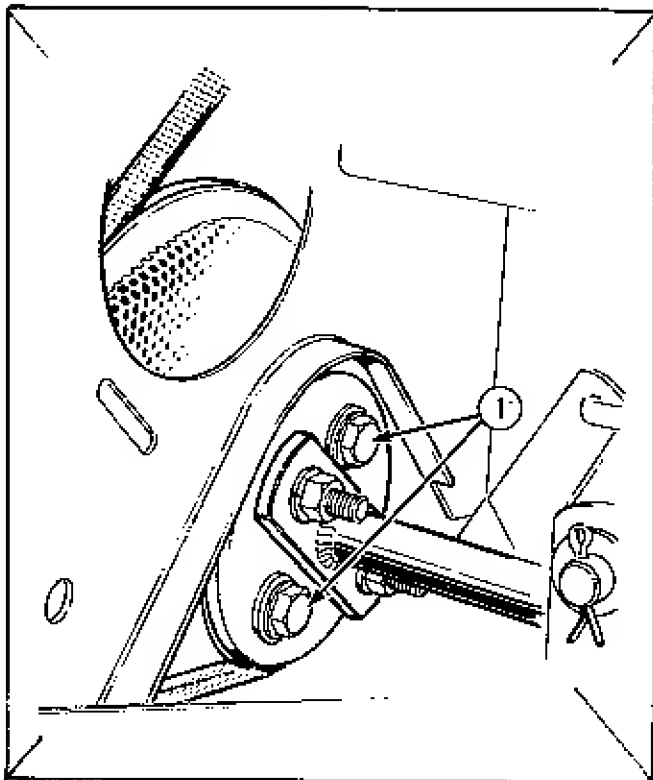
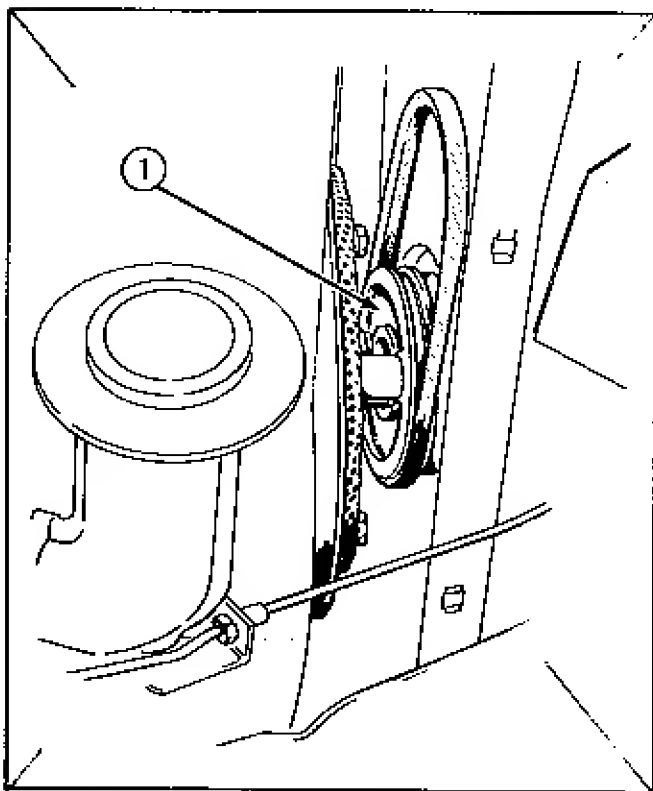

FIGURE 2
FIGURE 3
- C. Remove two capscrews holding front coupling to the engine pulley (1, Fig. 2) and replace Drive Hub with the hydraulic pump drive pulley (1, Fig. 3) being sure to have the pump belt in position on the pulley before replacing the attaching screws. (On 12 hp. drive pulley is furnished with tractor. Do not use pulleys supplied with kit).